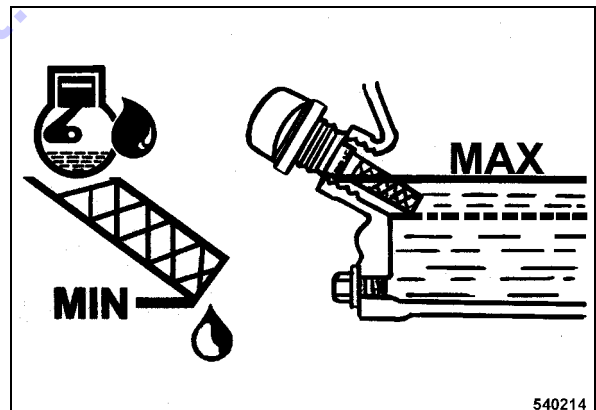

Fig. 38
- The oil level must reach the bottom edge of the filler bore (Fig. 38), top up if necessary.